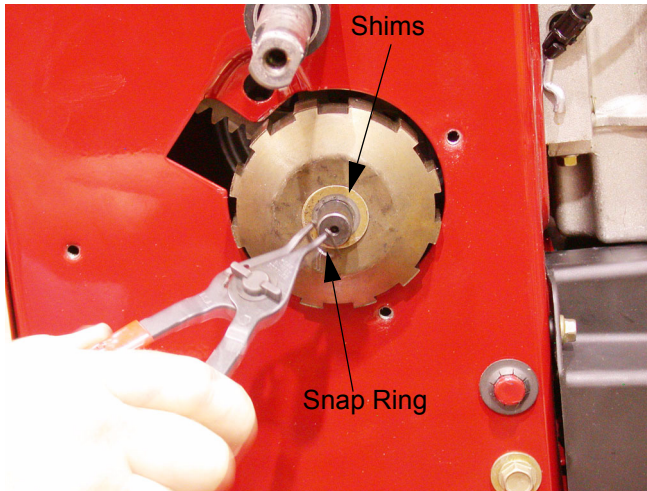

Figure 12.8
- 12.8. Remove the snap ring and shims off of the shaft. See Figure 12.8.